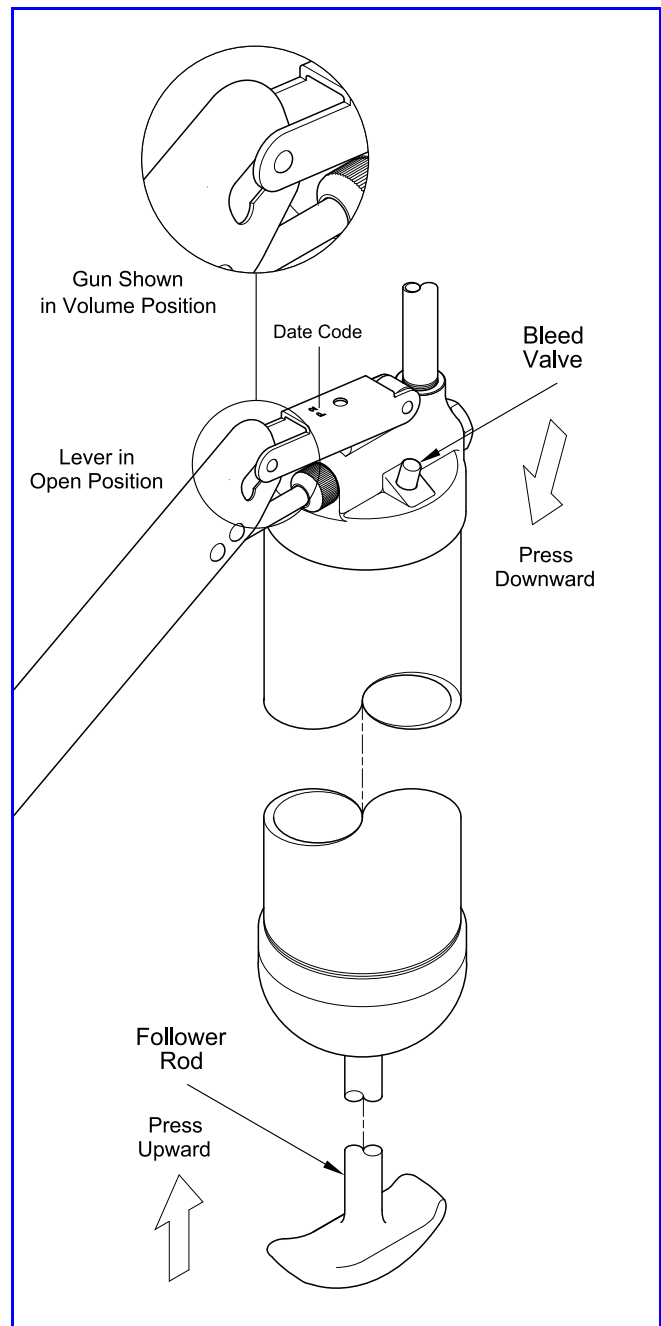

Figure 7 Force Priming the Gun
***IMPORTANT:** Make sure the gun is in the volume position. See **Figure 7**.*
4. Depress the Bleed Valve and at the same time push the Follower Rod into the gun's Cylinder. See **Figure 7**.